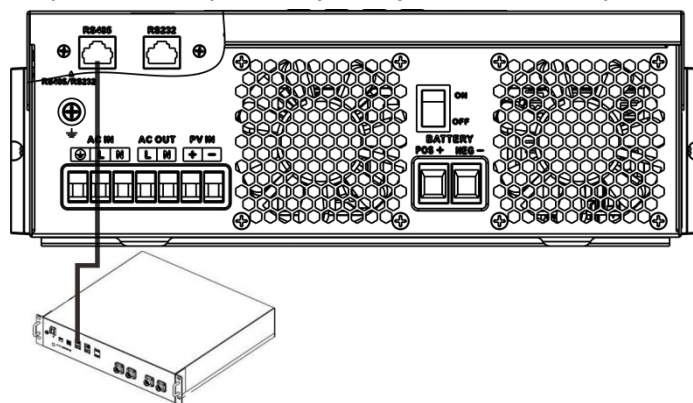

Fig 1
Step 1. Use the RS485 cable to connect inverter and Lithium battery as Fig 1.